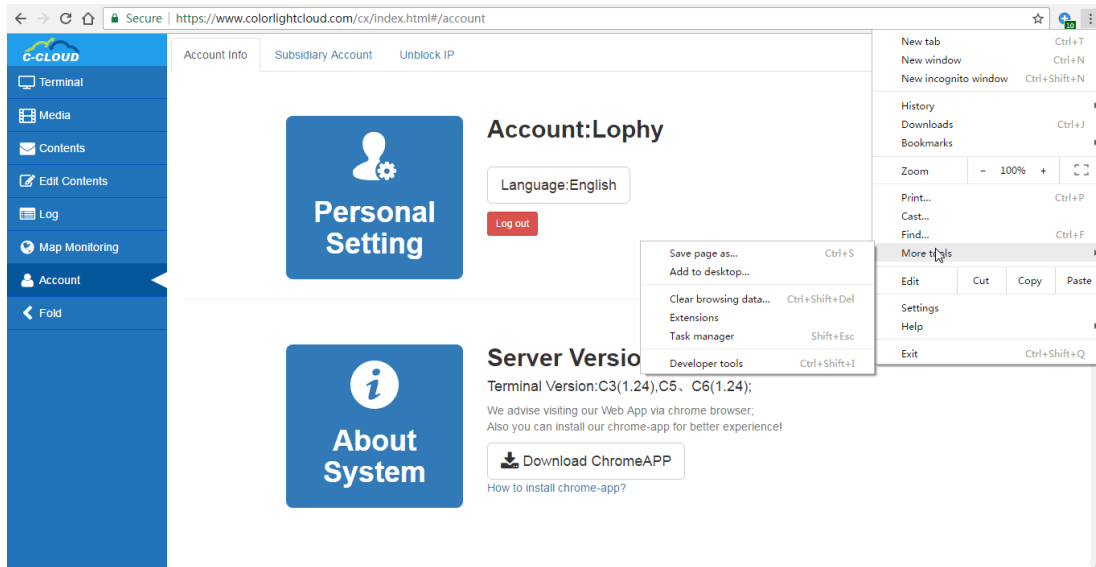
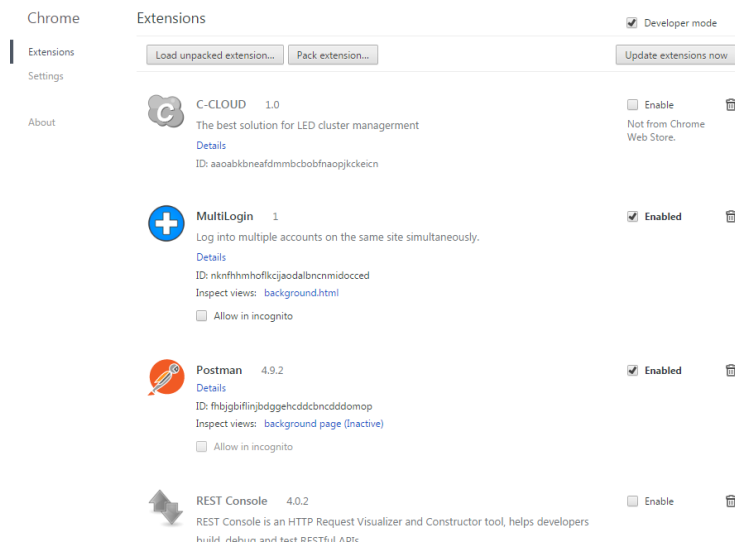

Figure 3.1-2
Figure 3.1-3
2. After downloading, select More Tools-->Expanded Program (Figure 3.1-2), drag downloaded Chrome extension (CRX) in the interface and add, at the moment, as shown in Figure 3.1-3, select Detailed Information-->Create a Shortcut on the desktop.